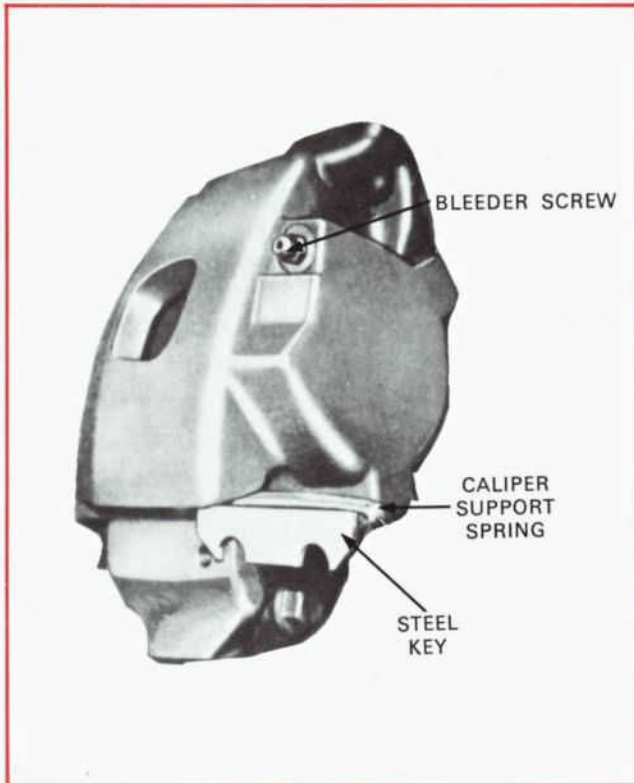

Figure 20 — Note how the caliper support spring and the key are installed on the sliding caliper type of disc brake.
12. Position the caliper support spring and key in the key slot and slide them into the opening between the lower end of the caliper and the lower anchor plate abutment until the key semicircular slot is centered over the retaining screw threaded hole in the anchor plate. See Figure 20.